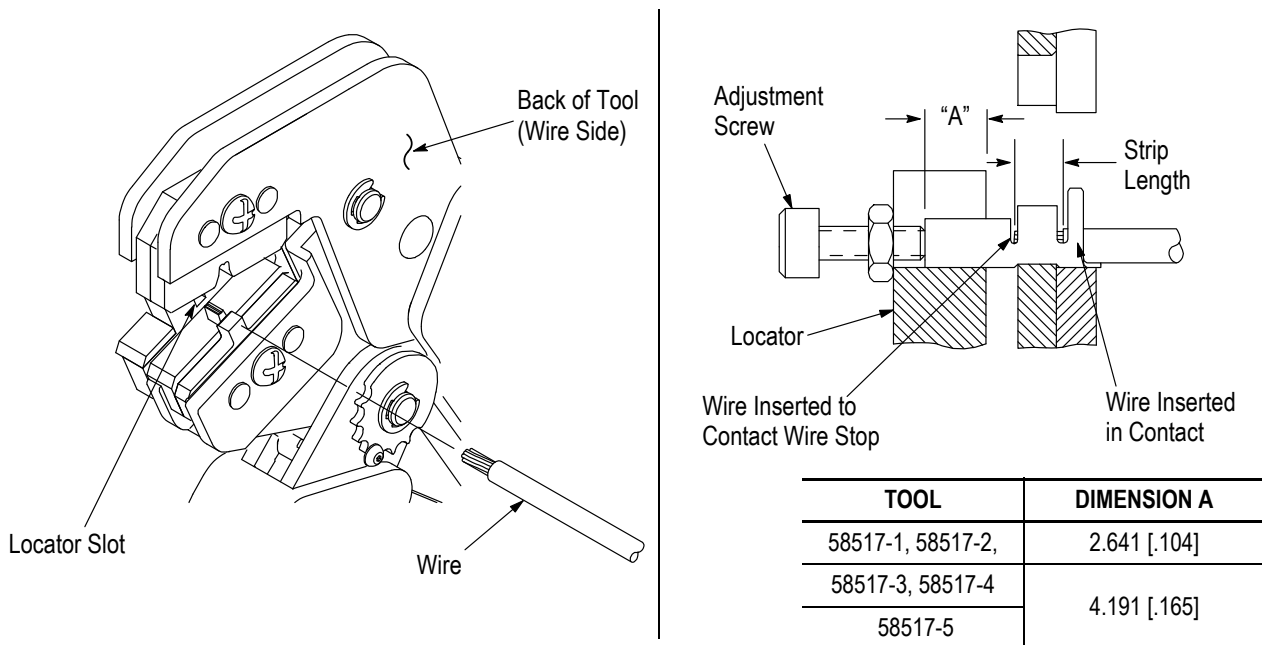

Figure 3
Refer to the table in Figure 1 and select wire of the specified size and insulation diameter. Strip the wire to the length indicated in Figure 1, taking care not to nick or cut wire strands. Select an applicable contact and identify the appropriate die assembly according to the wire size markings on the die. Refer to Figure 3 and proceed as follows:
4. Insert stripped wire into contact insulation and wire barrels until it is butted against the wire stop on the contact, as shown in Figure 3.
**5. CONTACT SUPPORT ADJUSTMENT** (Figure 3)
- Corrected callouts in Figure 3